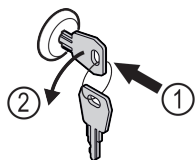

Fig. 131
- ▶ Insert the key. Fig. 131 (1)
- ▶ Turn the key anticlockwise by 90°. Fig. 131 (2)